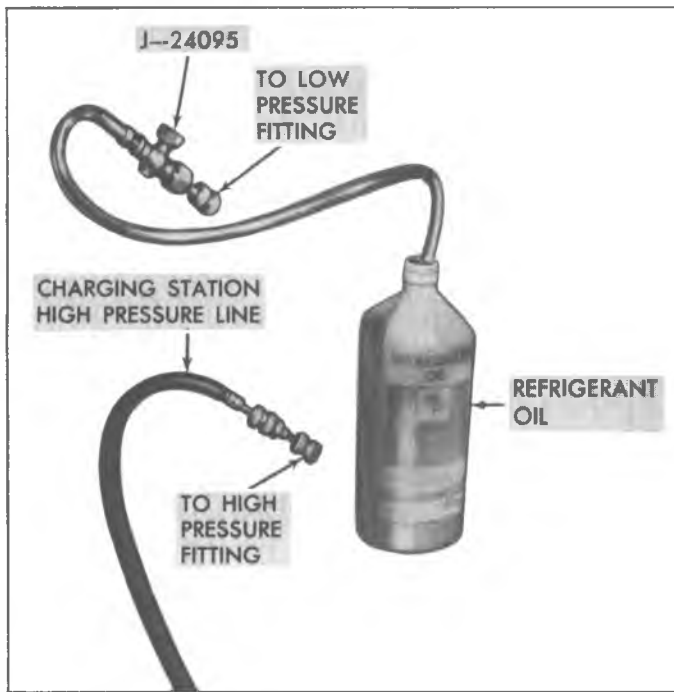

Fig. 51--Adding Refrigeration Oil Using Tool J-24095
- a. Disconnect the Charging Station low pressure line. Install Tool J-24095 (with valve closed) onto the system low pressure fitting. Insert pick-up tube into graduated container of clean refrigerant oil (fig. 51).